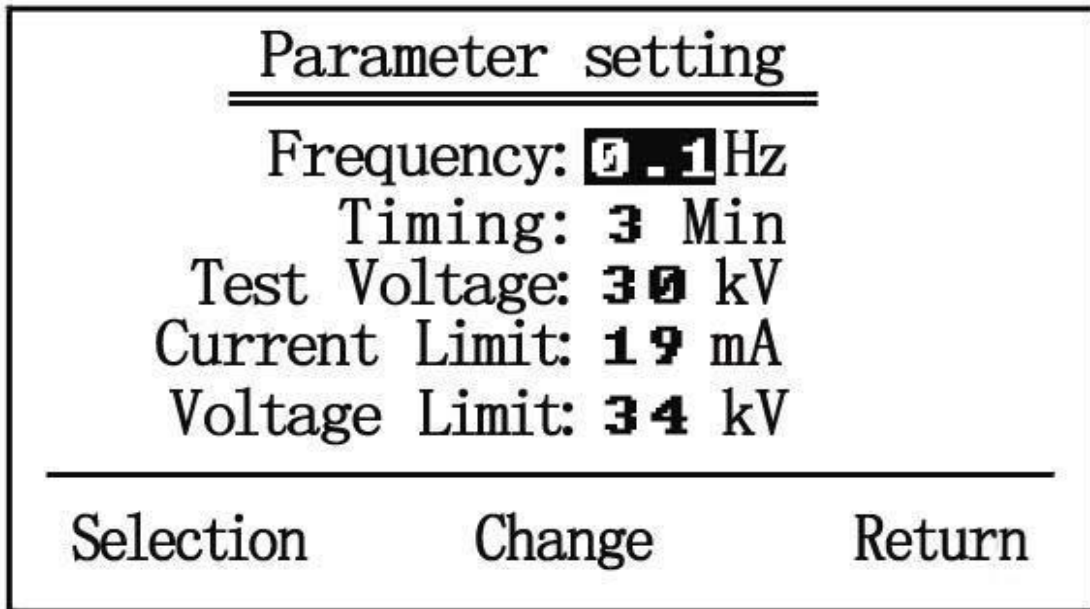

Figure 5 (Limit setting interface)
After completing the wiring of all the circuits in the method motioned above, the power switch can be put on. The instrument will automatically enter into the limit setting interface as shown in figure 5 when the microcomputer is electrified and reset. The power shall be shut-down on wiring, removal of lines or temporary non-use of the instrument. The power socket is provided with fuse tube, in case there is no display on the screen upon start-up, the first check shall be made on the fuse tube. The rating of the replaced tube shall be according to the data in Table 1.
On limit setting interface as shown in figure 5, the user can set output frequency, test time and voltage, overcurrent protection value on high-voltage side and overvoltage protection value according to test requirement. The modification methods are as follows:
- (A) Click “Boost” key, the instrument will enter into automatic boost procedure.
- (B) Click “Setting” key, the instrument will return to set limit sub-interface as shown in figure 5 to re-modify parameter.